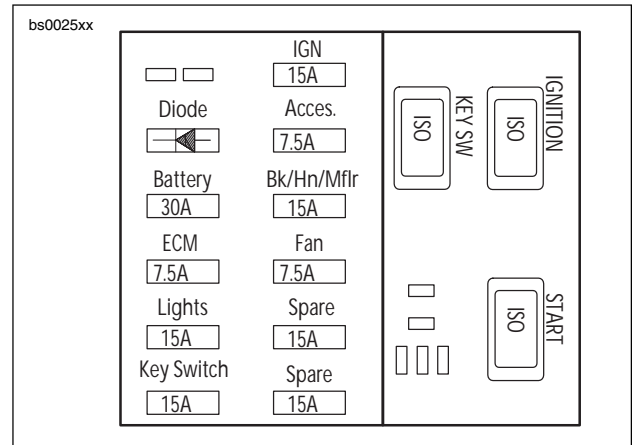

Figure 5-5. Relay Block (top view)
- See Figure 5-5. Locate starter relay. The relay is attached to the relay block under the seat.